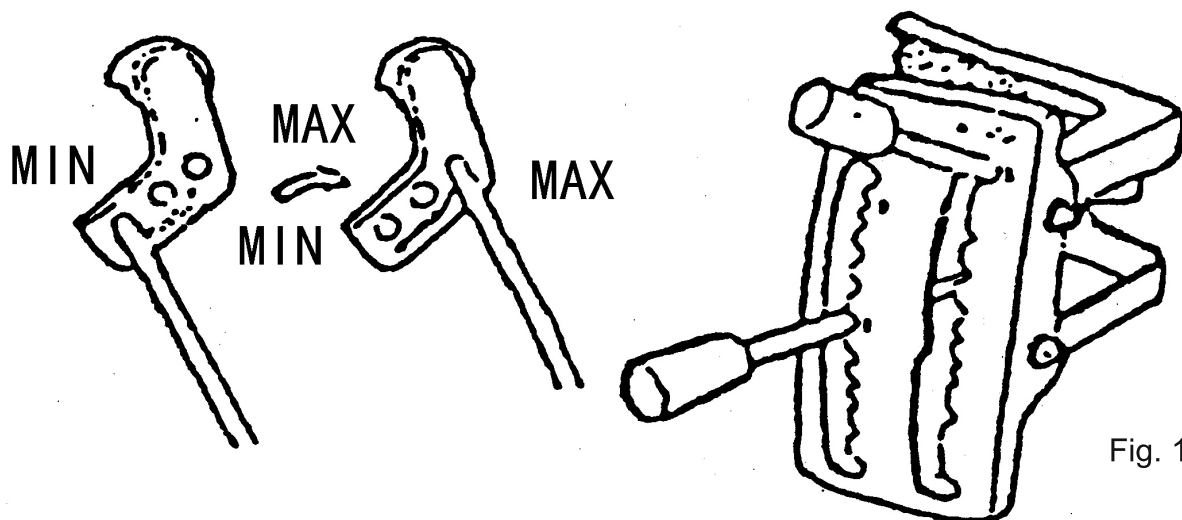

Fig. 12
2) Dusting. Regulate the discharge rate by shifting the dust rod's position in the three holes of the rock arm. See Fig.12